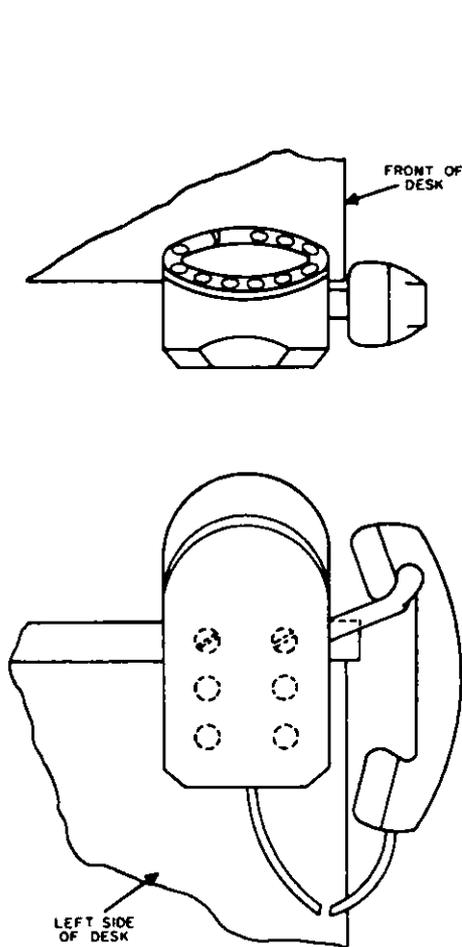

Figure 4. Desk Mounting.
4.02 For desk mounting, the preferred position is the front left corner as shown in Figure 4. For mounting in this position, the cover has six knockout holes. These holes permit the mounting of the telephone so the dial will be at the desired level above the desk top. Remove the cover from the telephone and knock out two of the knockout holes from the inside of the cover as required. Fasten the cover to the side of the desk with two No. 8 screws. After the station wires have been connected to the telephone, slide the telephone housing into the mounted cover and tighten the cover screw.